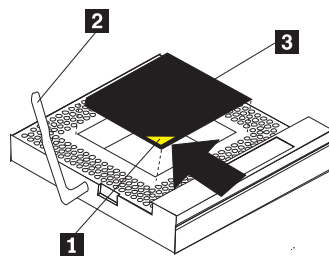

Figure 86. Aligning the microprocessor
- c. Center the microprocessor over the microprocessor connector aligning the gold alignment arrow on the corner of the microprocessor with the cut-out arrow on the connector. See Figure 86.